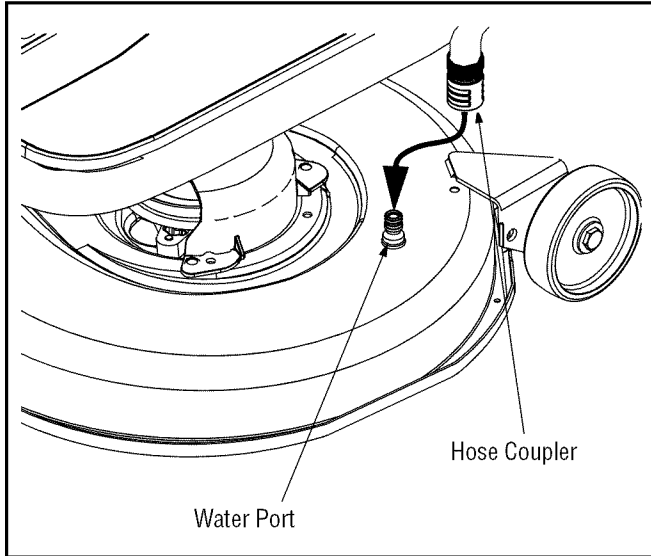

Figure 15
4. Attach the hose coupler to the water port on your deck's surface. See Figure 15.